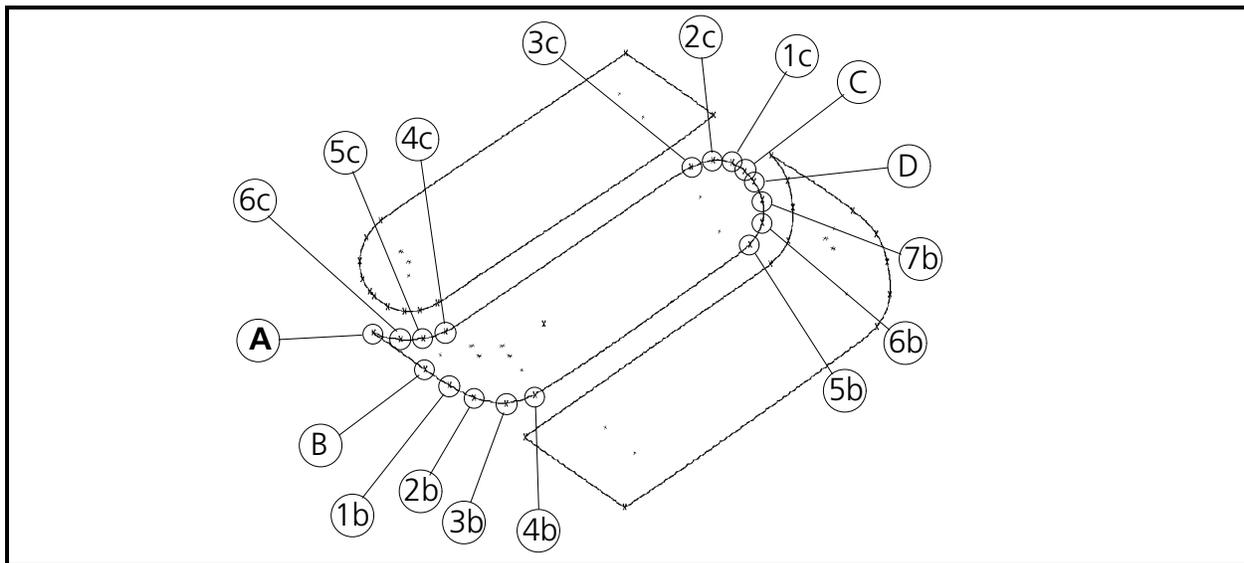

Figure 6-78
8. Refer to Figure 6-78 now and go to point B as with the first section of the logo and enter a Mk2 to define the beginning of the first side.
9. Define the curvature of the shape with Mk1s where needed (see 1b through 7b in Figure 6-78) until you get to point 7b.
2. Without any further instructions, use the knowledge you have acquired and refer to Figures 6-78 and 6-79 to complete the last fill stitching of the Saurer logo. Refer to the previous sections for help, if needed.